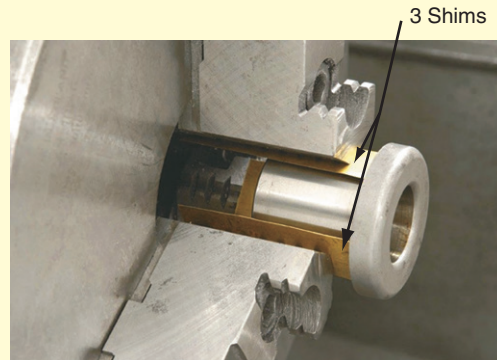

Figure 11-94 Soft sheet metal protects a finished part in a chuck.
1. Protectors on regular jaws to prevent marring finished work (Fig. 11-94)
Equal Thickness When using protectors be certain they are all three of equal thickness when used with universal three-jaw chucks. If not, the work will be held off-center! If using them with a four-jaw chuck, thickness isn't as critical as you will be centering the work with a DTI anyway (Fig. 11-94).